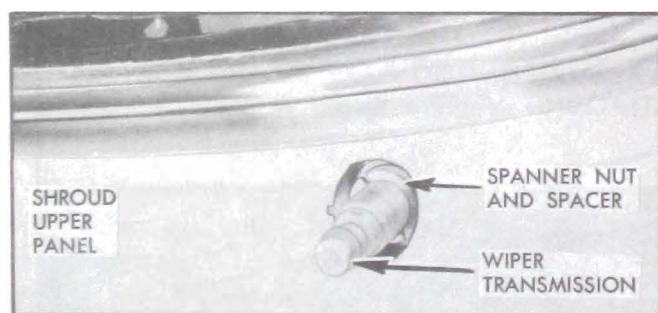

Figure 13-181—Windshield Wiper Transmission Attachment
6. Using wrench 6592, remove wiper transmission spanner nut and spacer. See figure 13-181.